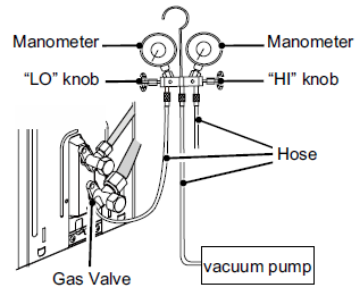

Fig.10
3. As shown in the following figure (Fig.10), expel the gas inside the indoor unit and refrigerant pipe out by the vacuum pump.